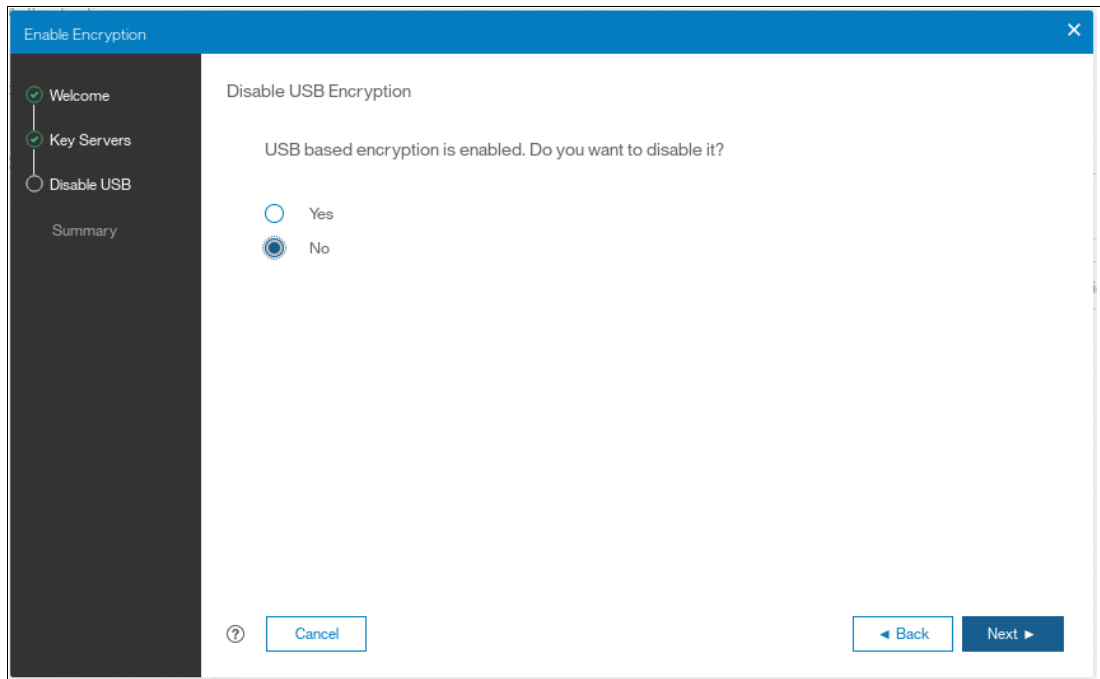

Figure 13-53 Do not disable USB flash drive encryption key provider
2. Subsequently, follow the steps required to configure the key server provider, as described in 13.4.3, “Enabling encryption using key servers” on page 726. One difference to the process described in that section is that the wizard will give you an option to migrate from the USB flash drive provider to key server provider. Select **No** to enable both encryption key providers, as shown in Figure 13-53.